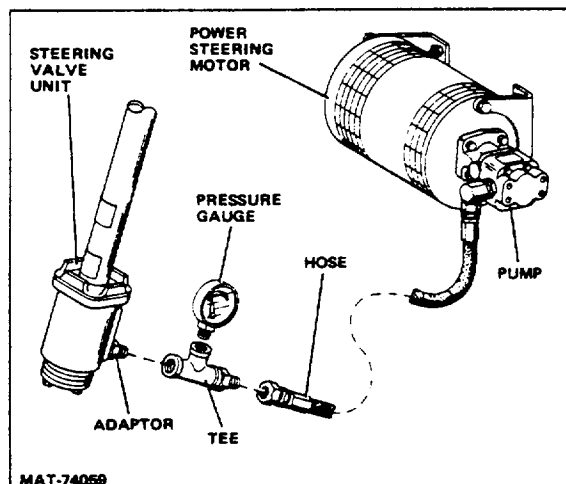

Figure 5-2. Pressure Gauge Location adjustment. Refer to following Paragraph F.
- Install a suitable tee fitting (Fig 5-2) between the adaptor and the end of the hose. Install a pressure gauge (0-3000 psi range) in the tee.